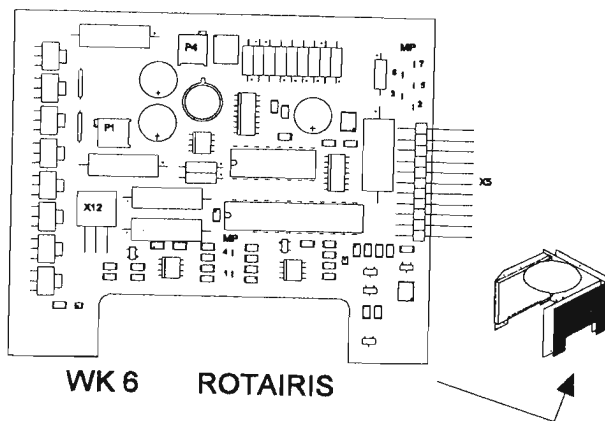

Figure 16
- l) Connect **WK6:MP1** to **WK6MP4** (watch dog., see Figure 16).